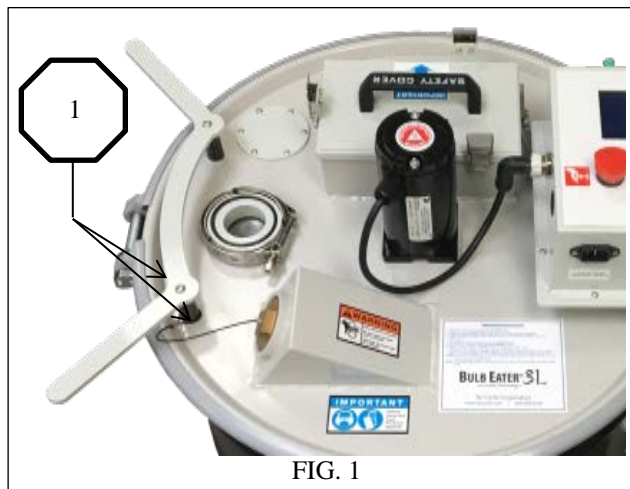

FIG. 1
1. Attach the plug assembly to the handle and install the handle to the lid assembly using (2) 1/4"-20 x 3/4" screws. **Figure 1**